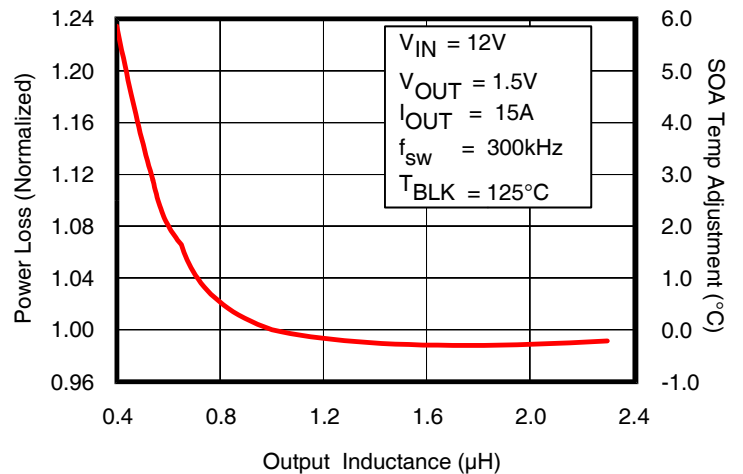

Fig. 7: Normalized Power Loss vs. Inductance
- (Fig. 7) Normalized power loss for inductor value ≈ 1.08
(Fig. 7) Normalized SOA Temperature for inductor value $\approx +2.0^{\circ}\text{C}$